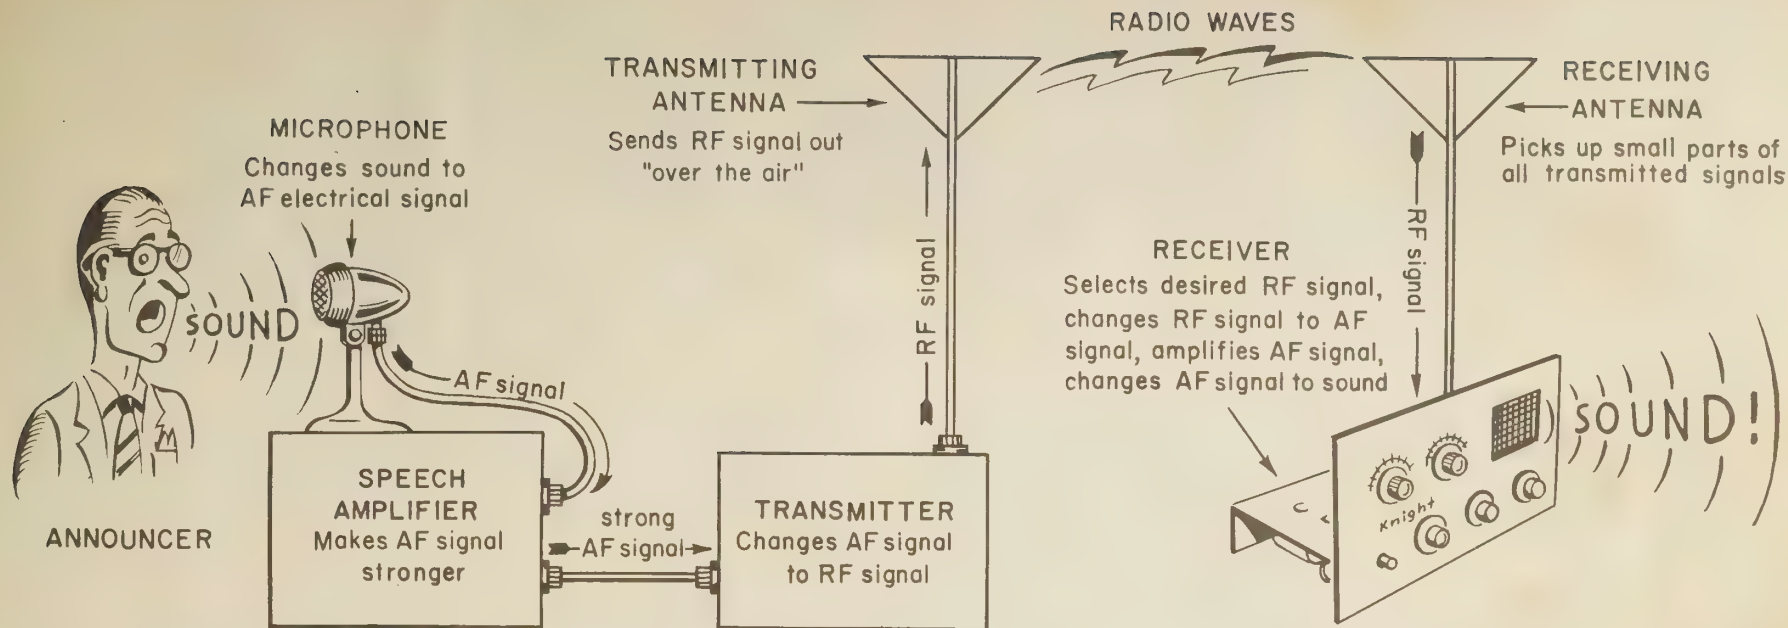

FIGURE 8. HOW RADIO MESSAGES ARE SENT AND RECEIVED
Figure 8 shows a typical broadcasting and receiving system. As the announcer talks, his voice is changed into a weak **audio frequency (AF)** electrical signal by the microphone. The weak AF signal is fed into a **speech amplifier**, where it is made many times stronger. The strong AF